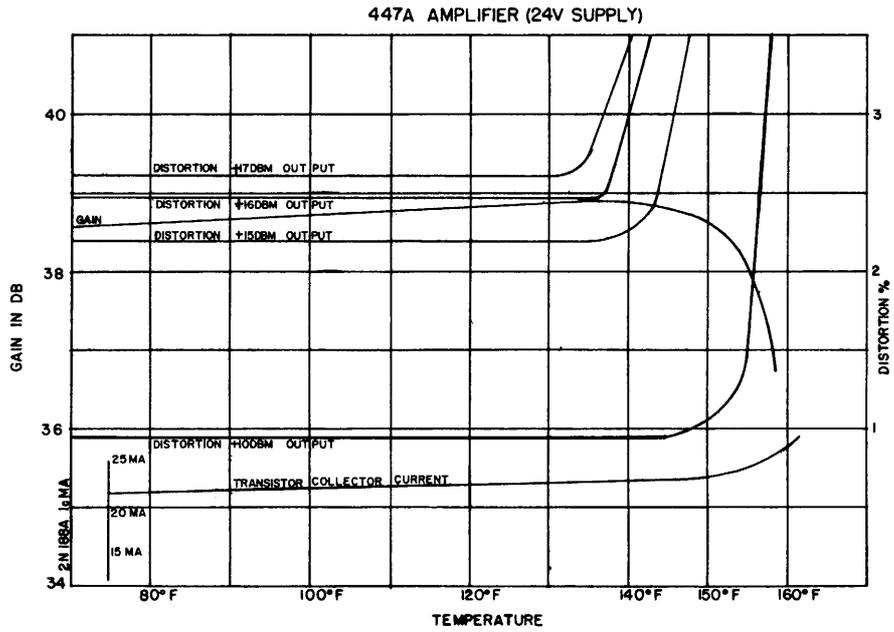

FIG. 5
3.03 Gain characteristics, distortion characteristics, and the output transistor collector current characteristics over the temperature range of 80°F to 160°F are shown in Figure 5. At elevated temperatures the power rating of the transistor decreases appreciably: and, while the data of Figure 5 was obtained under 24 volt operation, it is necessary to decrease the supply to 12 volts for continuous operation of the unit at high temperature. Change of gain vs. output power characteristic at the normal and reduced voltages is shown in Figure 6. Total current consumption at 12 volts is 12 ma.